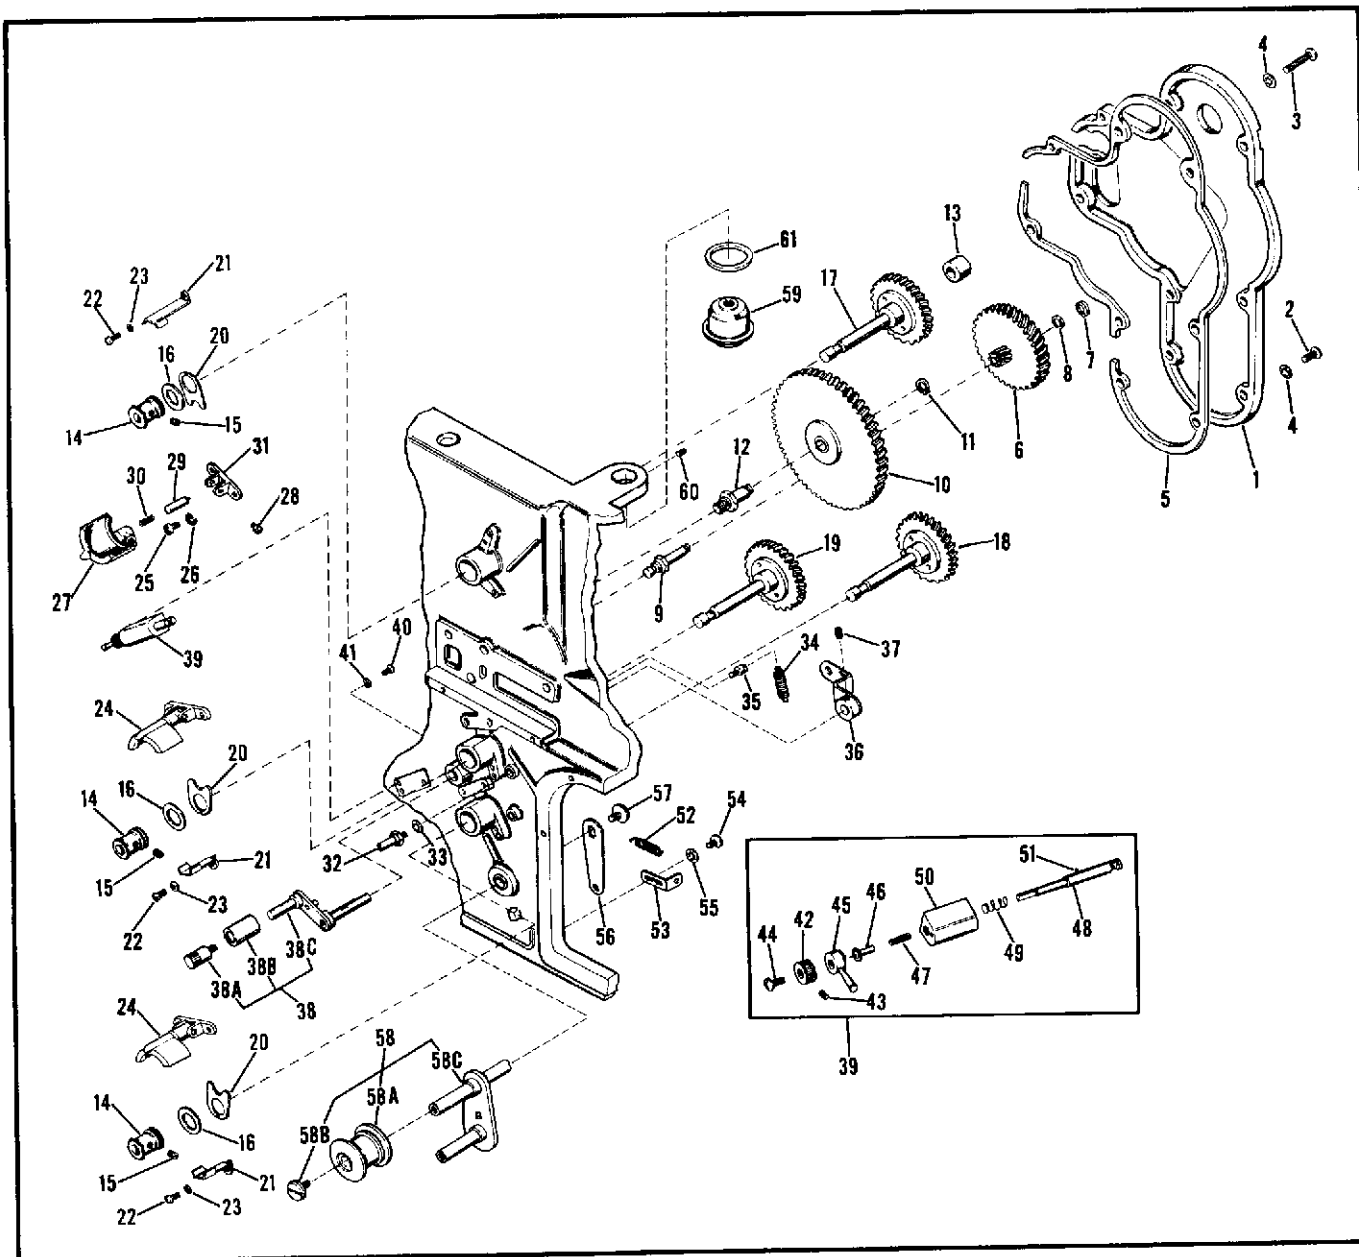

Figure 2-29. Removing Sprockets, Film Shoes and Gears
2-131. DISASSEMBLY. (See figure 2-29.)
- a. Remove screw (2 and 3) and lock washers (4) and lift off gear cover (1) to expose gears.
- b. Remove retaining ring (7) and spacer (8) and pull double idler gear (6) from gear stud (9). Remove retaining ring (11) and pull single idler gear (10) from gear stud (12). Pull sleeve (13) from shaft of gear (17).
- c. To remove sprockets (14), loosen set screws (15) and pull sprockets and fiber washers (16) from gear shafts. Withdraw gears (17, 18 and 19) from rear of mechanism plate. Be careful not to lose film stops (20).
- d. Film strippers (21) and film shoes (24) can be removed by taking out attaching parts (22 and 23) and (25 and 26), respectively. If necessary, disassemble film shoes (items 27 through 31) as shown in illustration.
- e. Unhook spring (34) from rear arm (36), loosen set screw (37) and disassemble rear arm and loop-setter assembly (38) from mechanism plate.
- f. Remove three screws (40) and lock washers (41) at rear of mechanism plate and lift off film slack adjusting assembly (39). Refer to paragraph 2-136 for repair instructions.
- g. Removal of remaining parts is purely mechanical and can be accomplished by reference to figure 2-29.
Key for Figure 2-29
2-135. REASSEMBLY. (See figure 2-29.)
2-137. DISASSEMBLY. (See figure 2-29.) Remove screw (44), loosen set screw (43), and disassemble all parts (45 through 49) from housing (50).
2-141. REASSEMBLY. (See figure 2-29.)